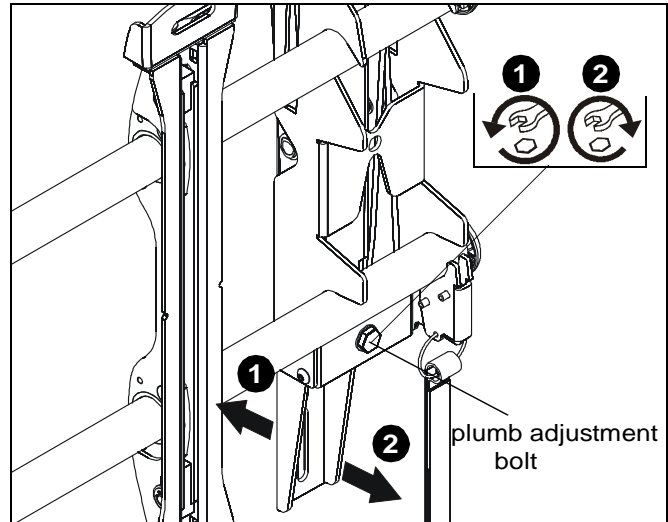

Figure 9
1. Using the provided 1/2" wrench (X), turn plumb adjustment bolt to the left to adjust screen away from the wall. (See Figure 9)
2. Using the provided 1/2" wrench (X), turn plumb adjustment bolt to the right to adjust screen toward the wall. (See Figure 9)